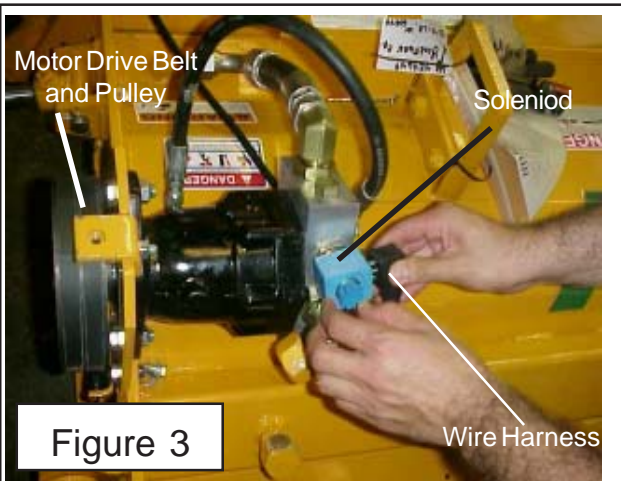

Figure 3
4. Disconnect Wire Harness From Motor Control Block. Unplug wire harness connection at the motor solenoid on the motor control block. It will not require that wire harness be completely removed only unplugged and lay it aside. (See Figure 3)